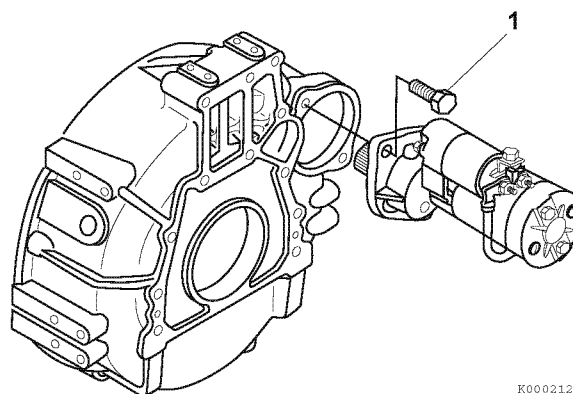

Figure 10-36
2. Reinstall the starter mounting bolts (1, **Figure 10-36**). Tighten the bolts to specification. See *Tightening Torques for Standard Bolts and Nuts* on page 4-24.